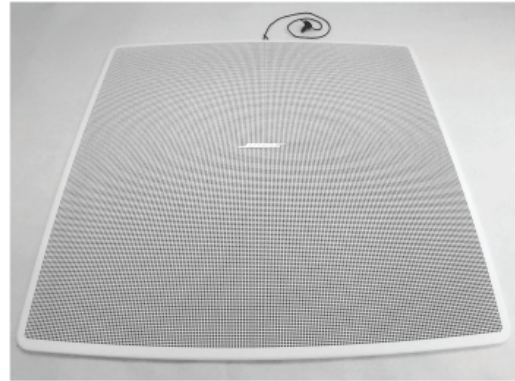
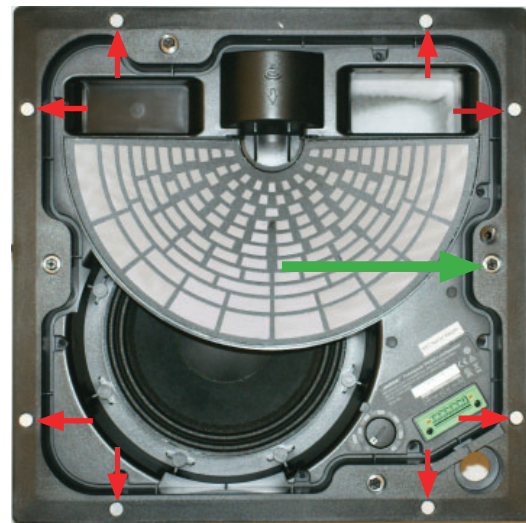

Figure 6
Figure 7
1.2 Remove the magnetically mounted grille from the Edgemax assembly by lifting on the edges. Figure 6.
Note: A lanyard is attached to the grille and a brush clip is attached at the opposite end. Removal of the brush clip will be necessary to place the grille off to the side, as shown in figure 6. A green arrow in figure 7 indicates where the brush clip is seated.
1.3 There are 8 non replaceable magnets on the outer edge of the baffle to secure the grille as indicated by the red arrows in figure 7.